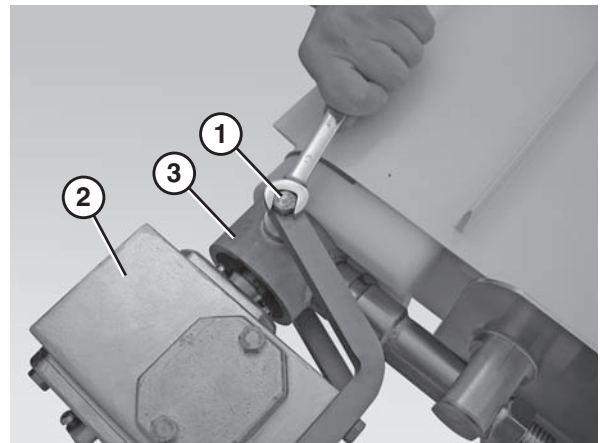

Figure 59
4. Remove the bolts (**Figure 59, item 1**) that connect the gear reducer (**Figure 59, item 2**) to the motor support bracket (**Figure 59, item 3**) and slide the gear reducer off the drive spindle.